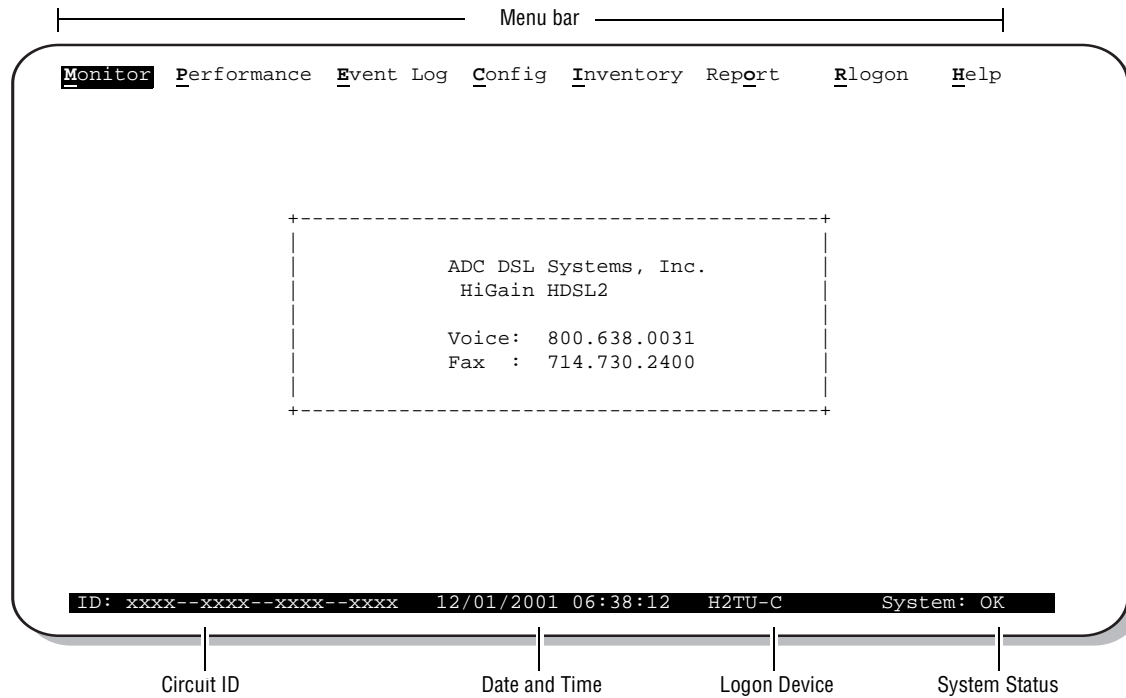

Figure 3. Logon Screen
- Use a maintenance terminal, such as an ASCII terminal or a PC running terminal emulation software connected to the H2TU-C craft port or an HMU craft port, to access the maintenance screens. Figure 3 on page 12 shows the maintenance screen. This provides full access to all H2TU-C status, history, inventory, and provisioning screens.
To select a menu from the HiGain HDSL2 logon screen, shown in Figure 3 on page 12, do one of the following: